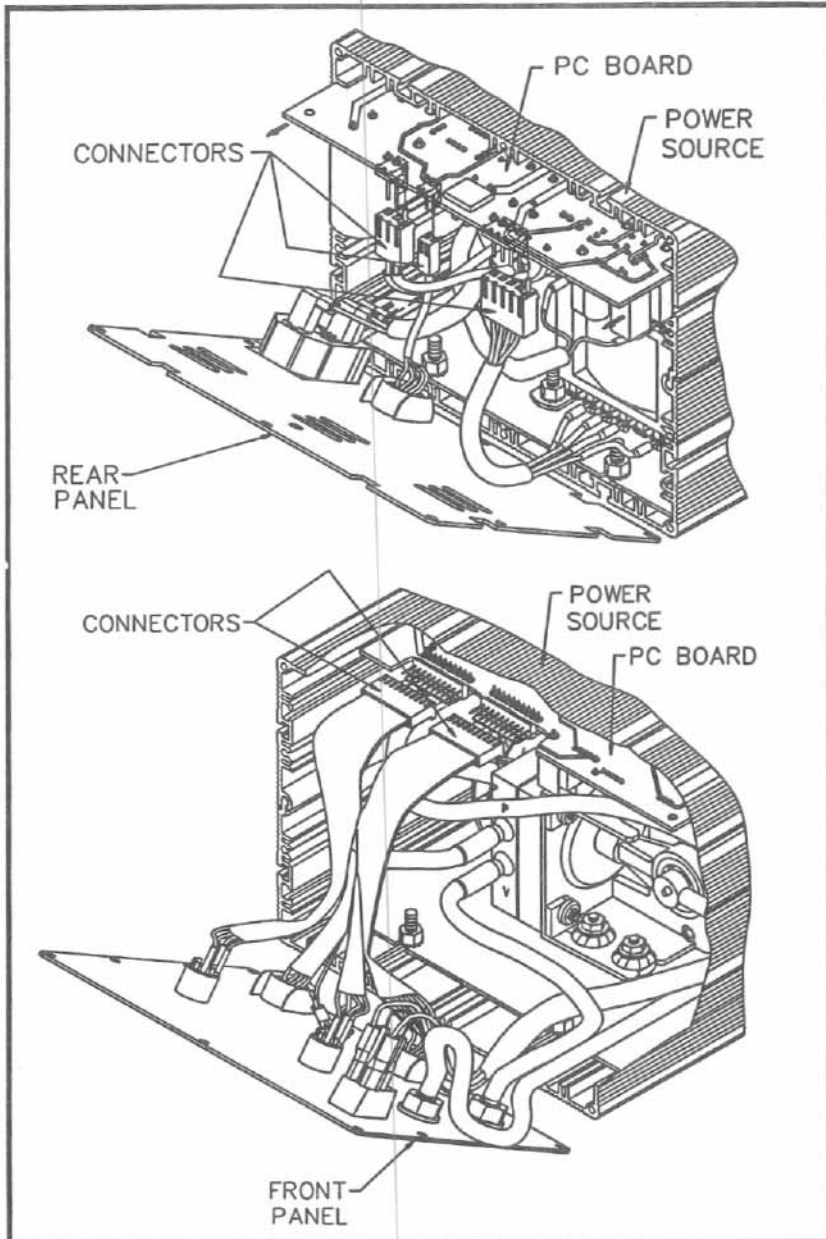

FIGURE 8. REMOVING PC BOARD
13. Carefully place the PC Board on top of the transformer assembly and reconnect panel cabling and hoses removed in steps 7 and 8 (see Figure 8). Note that if the system has 2 hoses, the lower hose connects to the SNAP-VAC Port (or VACUUM OPTION Port). Check to insure that the PC Board is not shorting to the transformer or motor pump assembly.